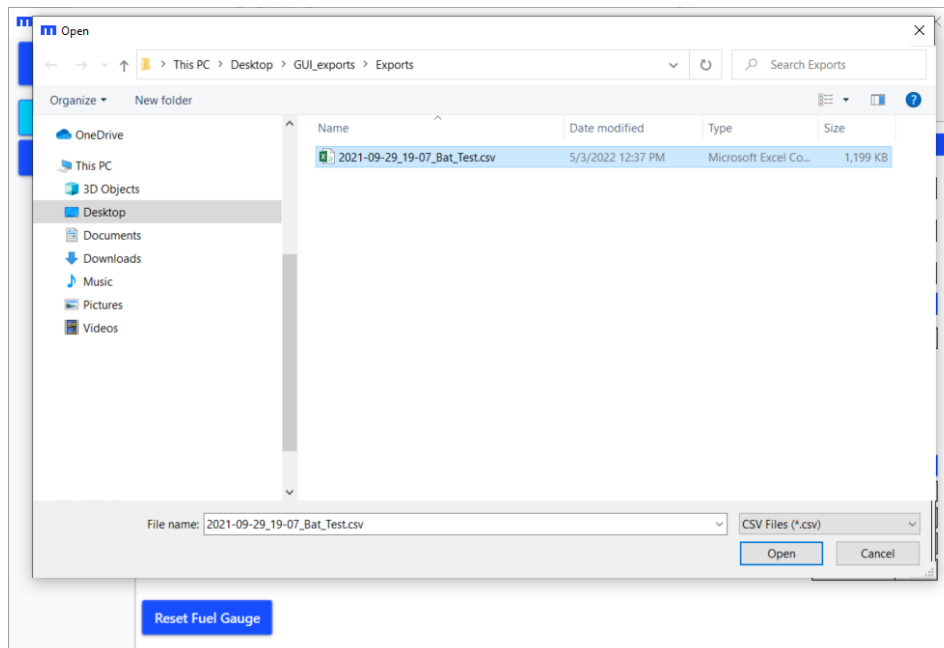

Figure 61: Virtual Fuel Gauge Select Input File
- Select the recorded “.csv” file to rerun using the explore button (see Figure 61).